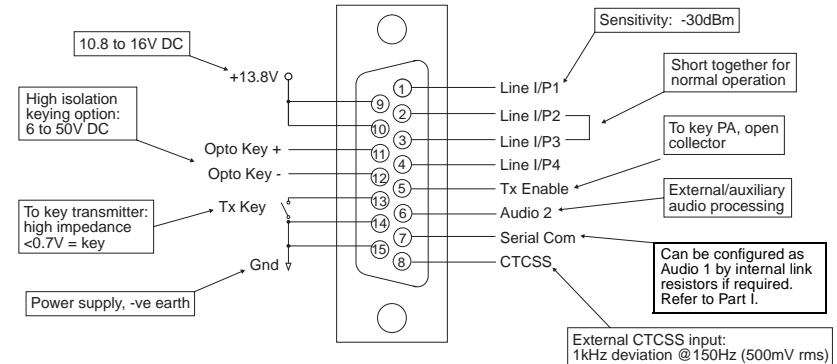
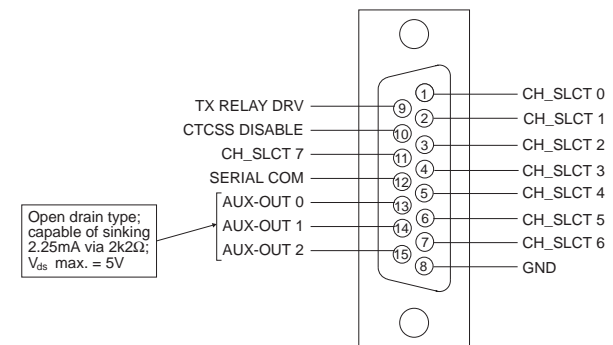

Figure 2.3 T856/857 D-Range 1 Wiring - Rear View
Figure 2.4 T856/857 D-Range 2 Wiring - Rear View (standard T800-03-0000 kit)
The D-range input and output connections are shown in Figure 2.3 and Figure 2.4. Ensure that the cables are not subjected to any stresses due to tight bends or incorrect lengths.
**Note:** Figure 2.4 above shows the standard pin allocations for the T800-03-0000 auxiliary D-range kit. A T800-03 auxiliary D-range kit is also available for special applications requiring custom internal wiring.